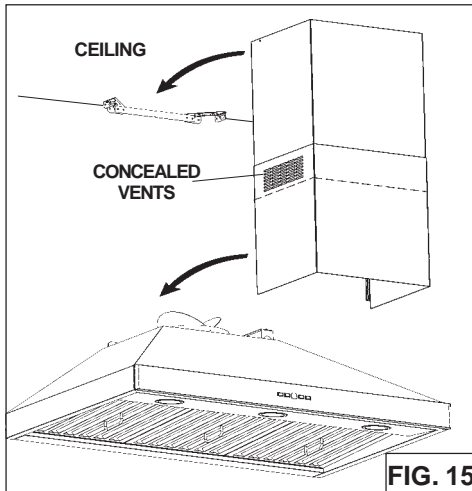

FIG. 15
5. Install upper and lower decorative flues onto the range hood. Vents are concealed on 8-foot ceilings. Vents may be exposed on 9-foot ceilings (Fig.15).